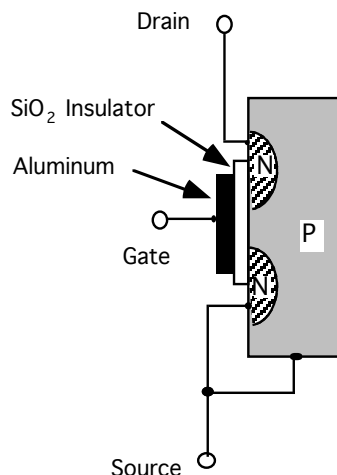

Figure 9.10b
The use of metal-oxide-semiconductor (MOS) technology to make a field effect transistor (FET) begins with a small slab of P-type silicon. As illustrated in the diagram in Figure 9.10b, two puddles of N-type material are diffused onto the left side of the slab to form the “Drain” and “Source” terminals. A very thin insulating layer of silicon dioxide (shown in white) is formed over these terminals, and a conducting layer (shown in black) is added by layering aluminum over the silicon dioxide. The aluminum layer is the “Gate” that turns the flow from Drain to Source on and off.
1. Look at Figures 9.10b and 9.10c. Based on these illustrations, why does extra charge sent into the Gate stay there until something is done from the outside to get it out?
2. Again, study Figures 9.10b and 9.10c. Does the extra charge in the Gate influence the Drain-to-Source region directly or indirectly?